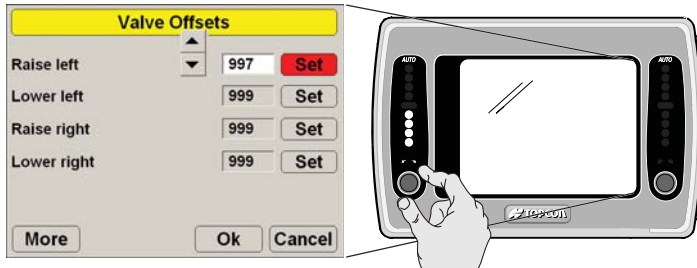

Figure 4-2. Setting Valve Offsets
4. Slowly turn the Grade Adjustment Knob clockwise until the blade just begins moving (Figure 4-2 on page 4-3).